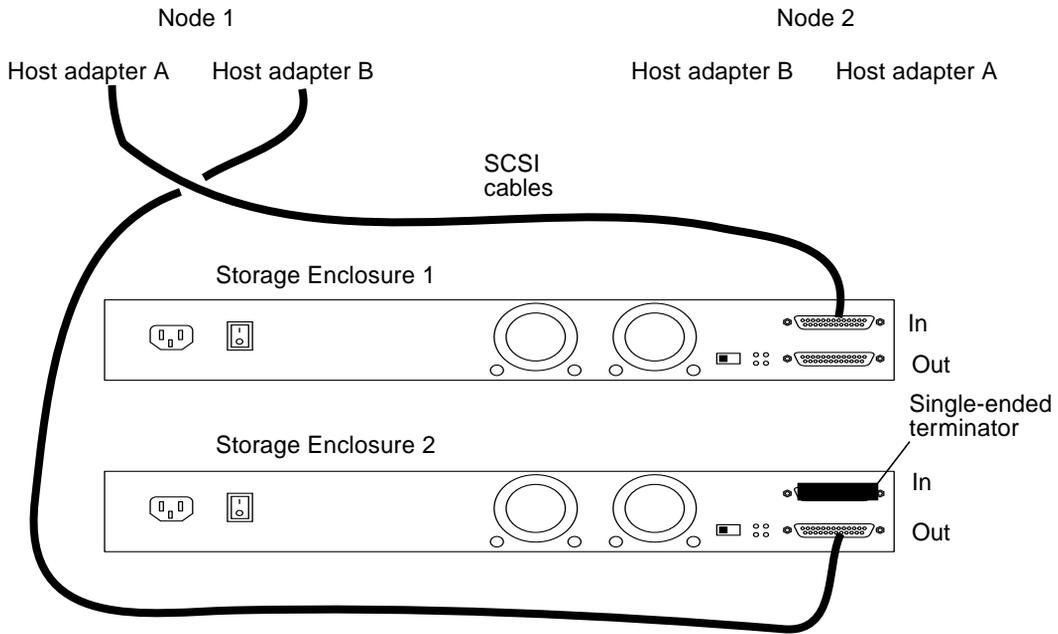

FIGURE 10-5 Example of a Netra D130/StorEdge S1 enclosures mirrored pair
4. Connect the appropriate SCSI cable between the node and the Netra D130/StorEdge S1 enclosures, as shown in FIGURE 10-5.
5. Temporarily install an appropriate terminator on the SCSI IN port of the *second* Netra D130/StorEdge S1 enclosures, as shown in FIGURE 10-5.